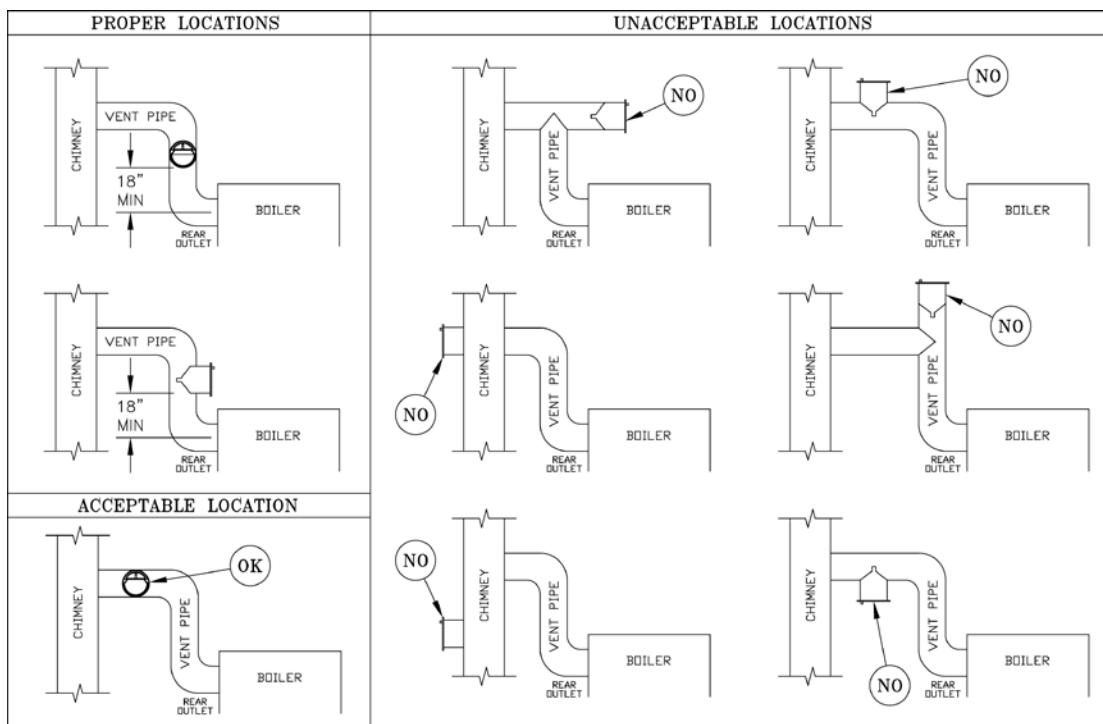

Figure 18: Proper and Improper Locations of Draft Regulator
NOTE: Secure chimney connector to cast iron smokebox collar with three (3) #10 x 1/2" self drilling hex head TEK screws provided in miscellaneous parts carton. Locate screws around perimeter of connector as shown in Figure 18 and approximately 1/2" in from edge. Use drill with 5/16" hex bit to drive screws through connector and smokebox collar.